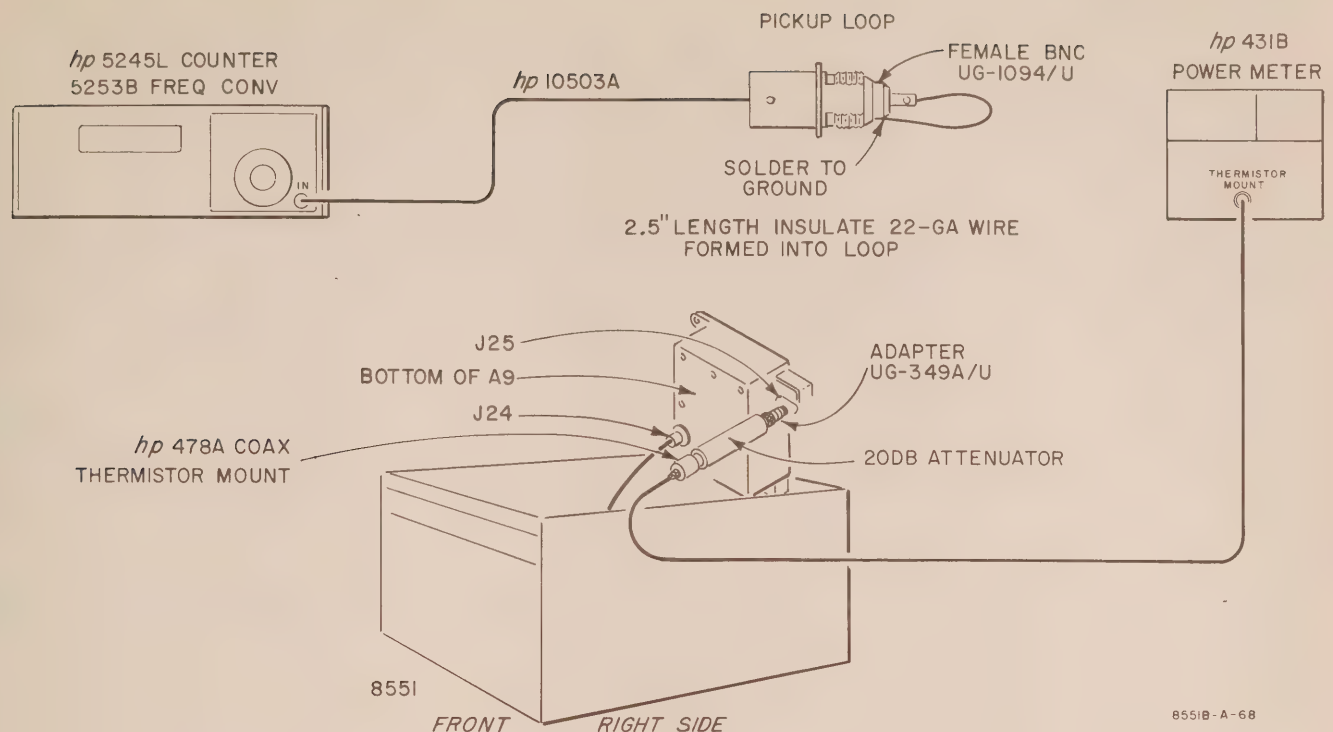

Figure 5-6. Setup for 180-Mc Adjustments
- Electronic Counter (5245L); item 7 in Table 5-1.
- Pickup loop (see Figure 5-6); item AD in Table 5-2.
- Connect pickup loop (see Figure 5-6) to counter via Cable Assembly 10503A.
- Place converter assembly approximately as indicated in Figure 5-6 so both Connector J25 and boards in top of converter assembly are accessible.
- Disconnect Cable W23 which connects to Connector J25. Connect adapter, 20-dB attenuator, and power meter thermistor mount to J25 as indicated in Figure 5-6.